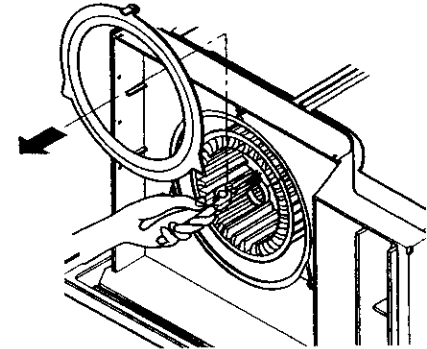

Figure 61
5. Remove the clamp which secures the blower with plier. (See Figure 61)